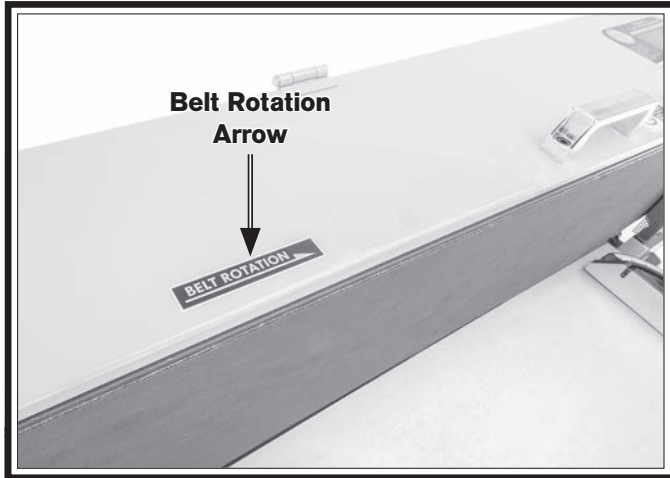

Figure 17. Sanding belt rotation arrow.
5. Install and center sanding belt around sanding drums, being sure arrows on belt match arrow of belt rotation on machine (see **Figure 17**).